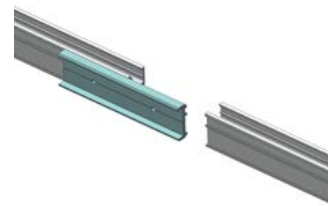

Figure 16
5.3.1 According to the installation plan, determine the mounting position of Rail. To connect several Rails together, slide half of the splice into the rear side of the Rail. Fasten the first M8 Bolt using an Allen key, and slide the next Rail into the Splice as shown in Figure 16 and 17. Tighten the second M8 Bolt using an Allen key. The total Rail length is recommended not to be over 30 meters considering Rails thermal expansion problem. Splice provides the electrical connection between the 2 rails through the pressure bolts. This eliminates the need of using 2 earthing lugs.